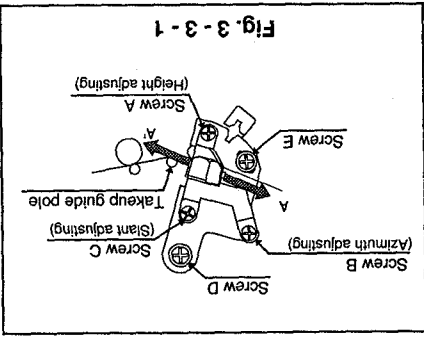
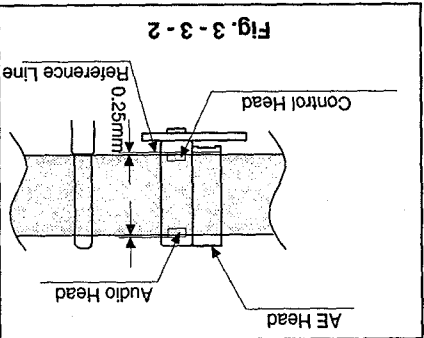

Fig. 3-3-1
Fig. 3-3-2
- 1 If the height of the CTL head is different from the specified value in Fig. 3-3-2, adjust the height by the adjusting screw A.
- 6 After the adjustment of ⑤, pull out the screw driver and check if the audio output level is 4.6 divisions or more, when the maximum level (audio output) of ⑤ was set for 5 divisions.
- 7 If the audio output level is below the specified value, repeat the procedure ①~⑥.
- 8 Push the A/C head to the right and left in the direction of A and A' in Fig. 3-3-1 and the release the A/C head. Check that the audio output level does not change. (Do not push past the point where the audio output level is reduced by 3/4 of its maximum value.)